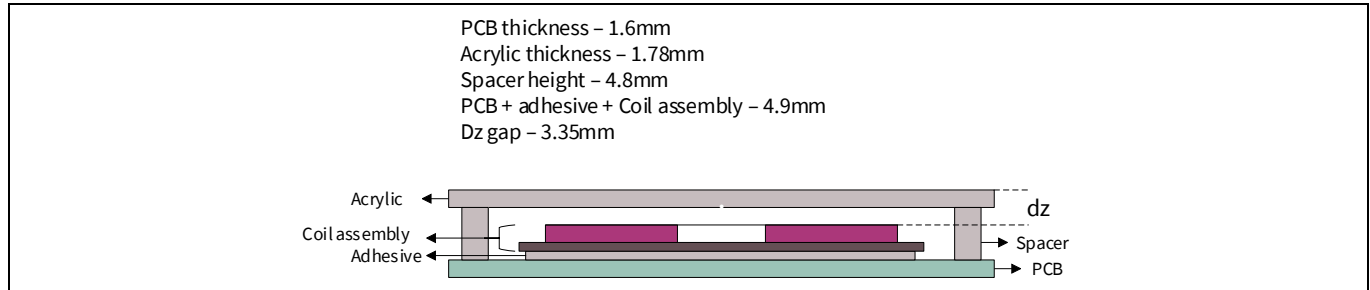

Figure 5 MP A11 transmitter coil assembly
4. **Transmitter coil assembly** – The transmitter coil is MP-A11 type with specifications per Qi standards. The coil is mounted on a separate coil PCB. An acrylic sheet forms the interface surface of the transmitter. The coil mounting adhesive, spacers, and acrylic thickness are selected such that the distance between coil top surface to interface surface is approximately 3.35-mm (Qi specification – 3.5 ± 1 mm). See Figure 5 for coil assembly details.